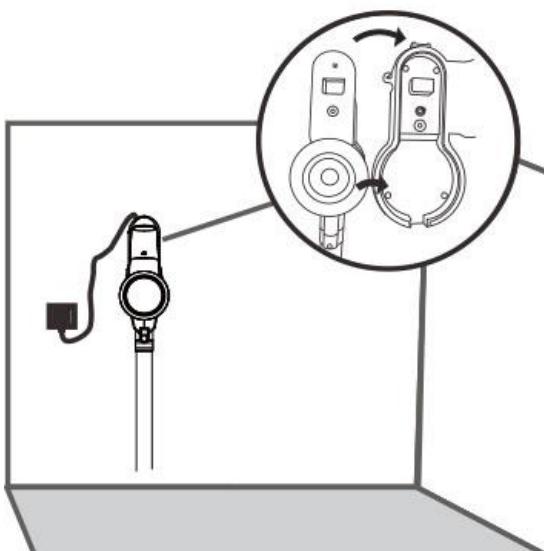

Fig. 1
2. Simply dock the appliance into the charging seat for re-charging (Fig.1). Plug the charging adapter into the power socket.